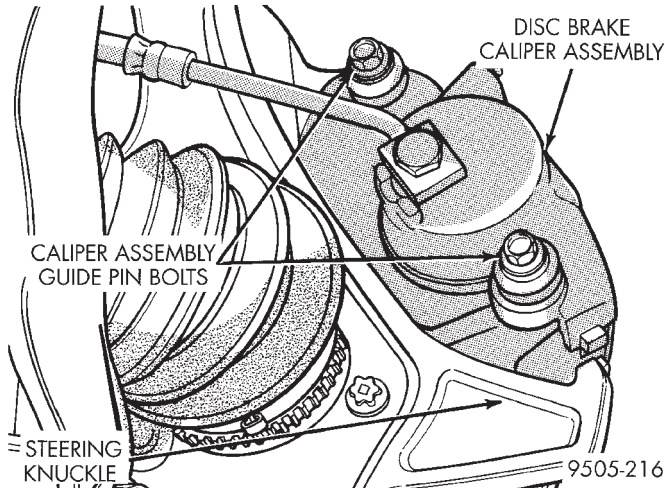

Fig. 21 Disc Brake Caliper Bolts
(12) Install caliper assembly to steering knuckle guide pin bolts (Fig. 21). Tighten caliper assembly bolts to 31 N·m (23 ft. lbs.).